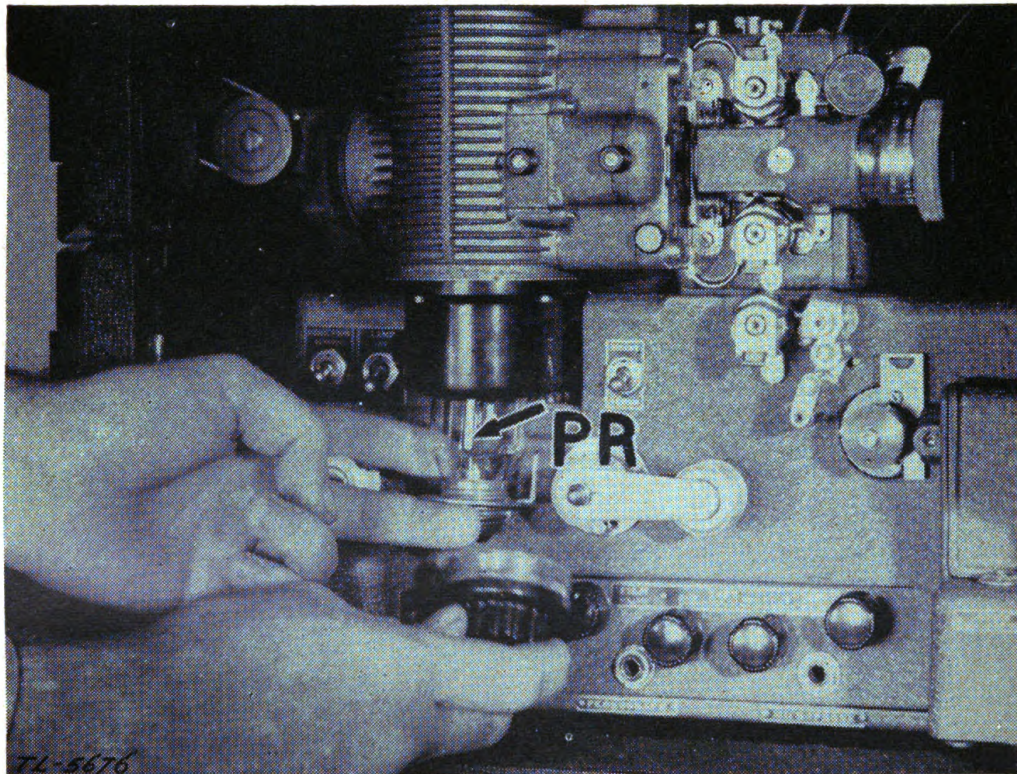

FIGURE 64.—Removing Bell & Howell projector lamp.
c. Bell & Howell.—(1) To replace the projector lamp, unscrew the cap at bottom of lamp house, allowing lamp to slide out (fig. 64). Screw centering ring on new lamp, and with centering tongue forward, raise lamp into position. Replace retaining cap.